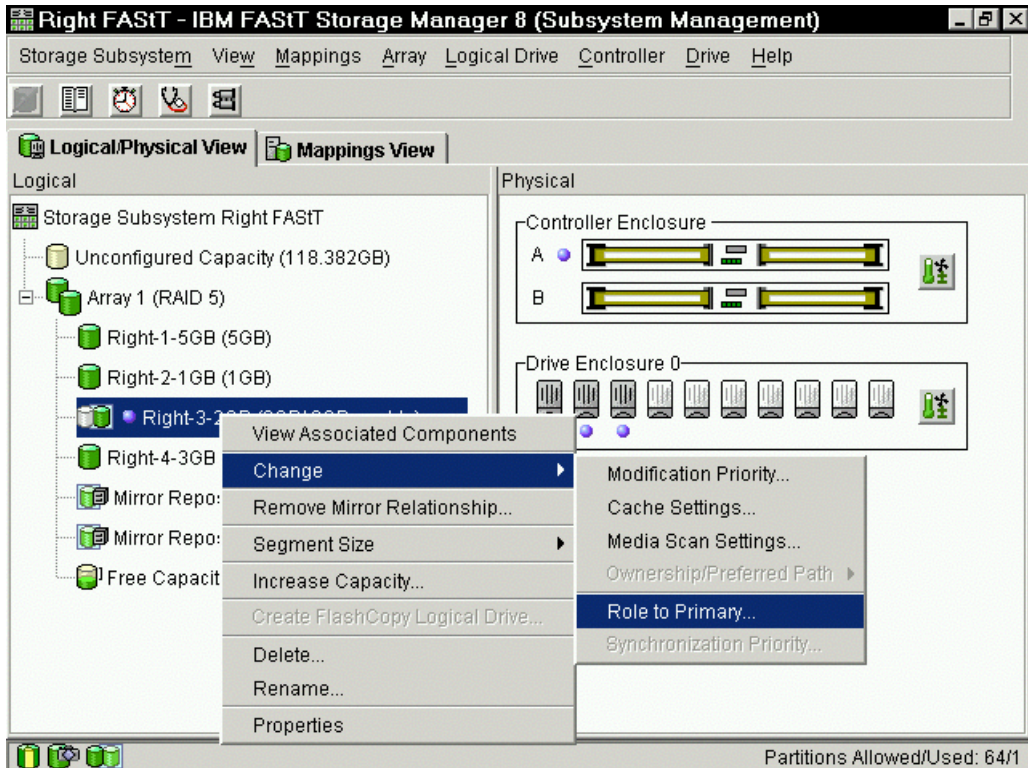

Figure 6-28 Promoting secondary to primary
3. Right-click and click **Change-> Role to Primary** as shown in Figure 6-28.